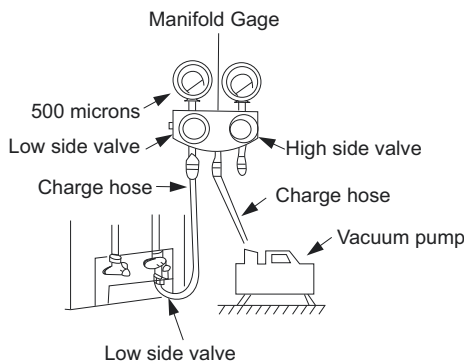

Fig. 6 — Manifold
3. Fully open the low side of manifold gage (see Fig. 6).